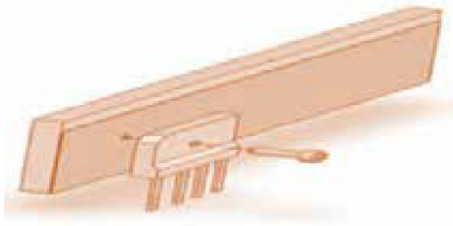

Fig. 6.26: Heat Sink Assembly Insulation Sheet
Step 1. Before starting the LED street light assembly, , complete the heat sink assembly. The Heat Sink Assembly Insulation Sheet is shown below in Figure 6.26.